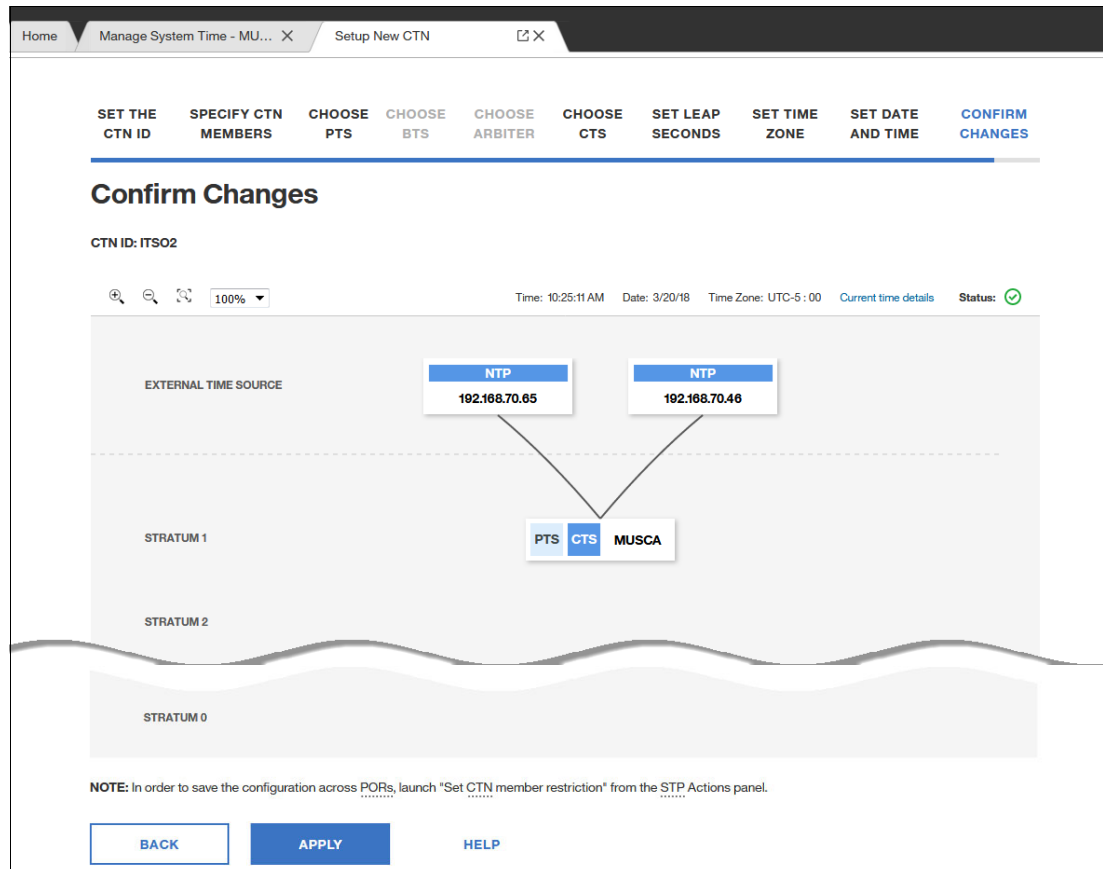

Figure 16-16 Single Server CTN (pending Confirm Changes)
- After clicking **NEXT**, we check the configuration before confirming any changes, as shown in Figure 16-16.